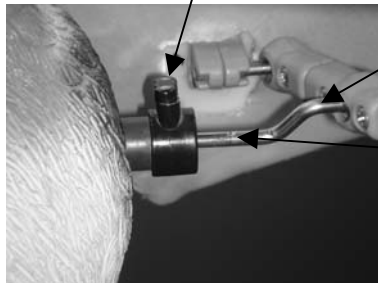

Figure 6
- 4) On the underside of the wing, there is a linkage with a metal rod offset arm protruding from it. Notice there is a dimple in the top of the cam arm about a half inch from the end. Align the dimple on the arm with the protrusion sticking out of the cap in the wing/motor coupler (See Figs. 6 and 7 below). Push the arm into the hole in the end of the coupler until the arm snaps in place.